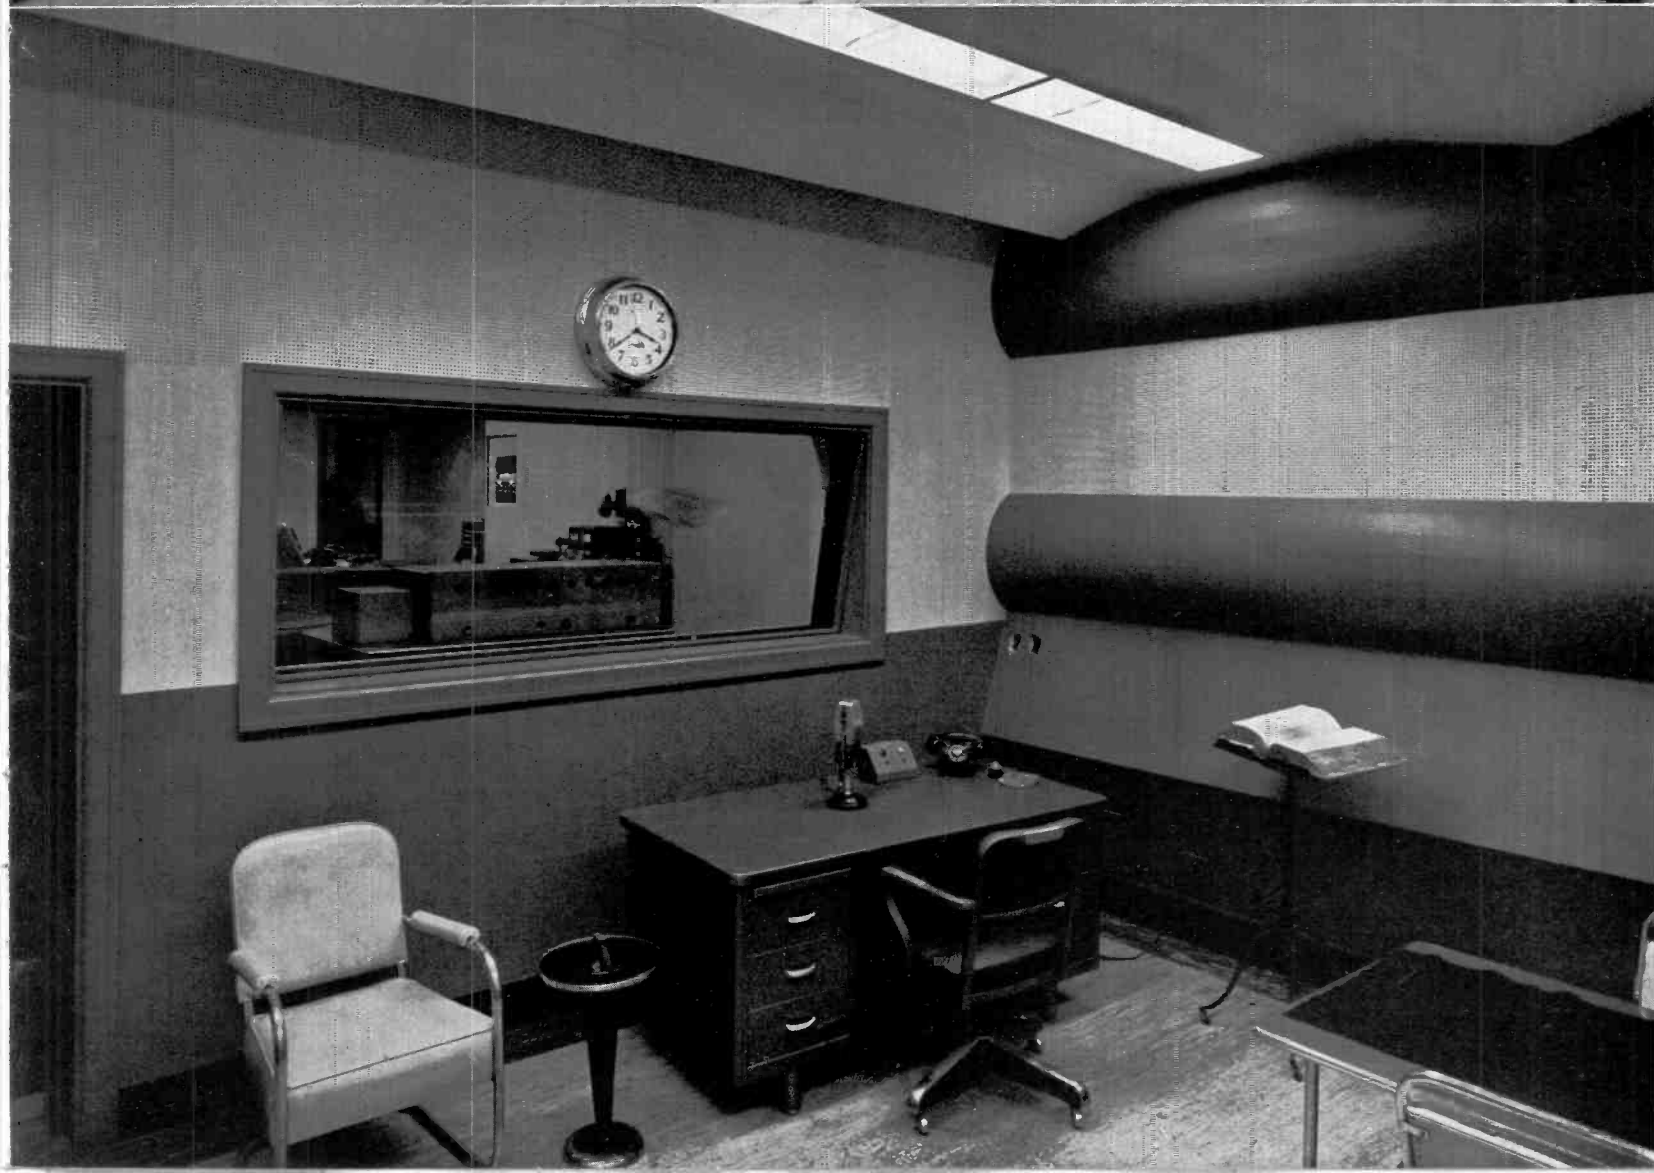

FIG. 1. Master control room of WBAL's new studio installation. R. S. Duncan, Chief Engineer of WBAL, at the control console.
FIG. 1. (Above) Control room of WMOX. The streamlined control console, built by WMOX, has several ingenious features, including a guard wall, which protects the 70-C1 Turntables, an acoustic baffleboard behind the 76-B2 Console, and an 88-A Microphone mounted on a conveniently adjustable pipe-arm.
FIG. 1. (left) This three-story brick building on top of West Orange Ridge will house WAAT-TV and WAAT-FM. 130-foot tower at the right will support a 2-section Pylon for FM and a 6-bay superturnstile for TV.
WAAT's transmitter building on West Orange Ridge (Figure 1) will eventually house, not only WAAT-TV, but also the Bremer FM station WAAW and WAAT's facsimile transmitting equipment.
The antenna system, which will be used jointly by WAAT-TV and WAAW (FM), is shown diagrammatically in Figure 3. The base is a 130-foot self-supporting tower of standard construction. This tower stands just behind the building (Figure 1). On top of this will be mounted a 2-section (heavy-duty type)
FIG. 1. (left) Major Thomas D'Alesandro of Baltimore "spins the platters" in the control room of WBAL's new studio installation. Looking on, like a proud father, is Harold C. Burke, manager of WBAL.
As is usually the case, the size and location of the building, towers, antenna, and the overall layout of the station were determined largely by the transmitting equipment to be used, working space desired, and the area to be served. The one-kilowatt AM transmitter and studio control equipment are pictured in Figure 1 and Figure 2.
At WSBA, as the photographs of Figure 1 and Figure 2 illustrate, the 20- by 24-foot transmitter room contains the RCA 1-K
FIG. 1. (below) Complete control of studios and AM transmitter is provided by this flexible arrangement consisting of 76-B2 and 76-B4 Consolettes and 70-C2 Turntables complete with recording attachments. Messrs. Beaver and Lovett, operators, are shown at the master controls which face the AM transmitter.
purchased to hold three BA-1A Pre-amps, one BX-1A Power Supply, a BA-3A Auxiliary Line Amplifier and one BA-4A House Monitoring Amplifier. All of this equipment was matched to the AM console so that by means of the jack panel all would be as interchangeable and flexible as possible. The consoles, as shown in Figure 1, are side by side with the speakers overhead and the turntables to the left and right respectively. All wall-type monitoring speakers were converted into three-channel jobs with a selective switch that permits anybody in any office to listen to AM, FM, or Audition at will. The whole operation was fitted into WSBA's physical setup of one large and one small studio, by the addition of another small studio large enough to hold three broadcasters or for single-announcer shows, etc. The interchangeability desired necessitated the design of a signal light system to tell announcers at a glance when their particular microphone operation is open for use by either station. In addition, it informs the announcer whether AM, FM, or a combined station break is to be given.
FIG. 1. (above) *His Holiness Pope Pius XII, inspects image orthicon equipment used in televising the Vatican Choir. Originating in the Hall of Consistory of the Vatican, the program was seen by the Pope on the screen of a television receiver installed in his private chamber. Joe Jenkins, RCA Promotion Department television director is explaining the equipment. To the immediate left of His Holiness is Count Enrico Galeazzi, General Director of Technical Services in the Vatican.*